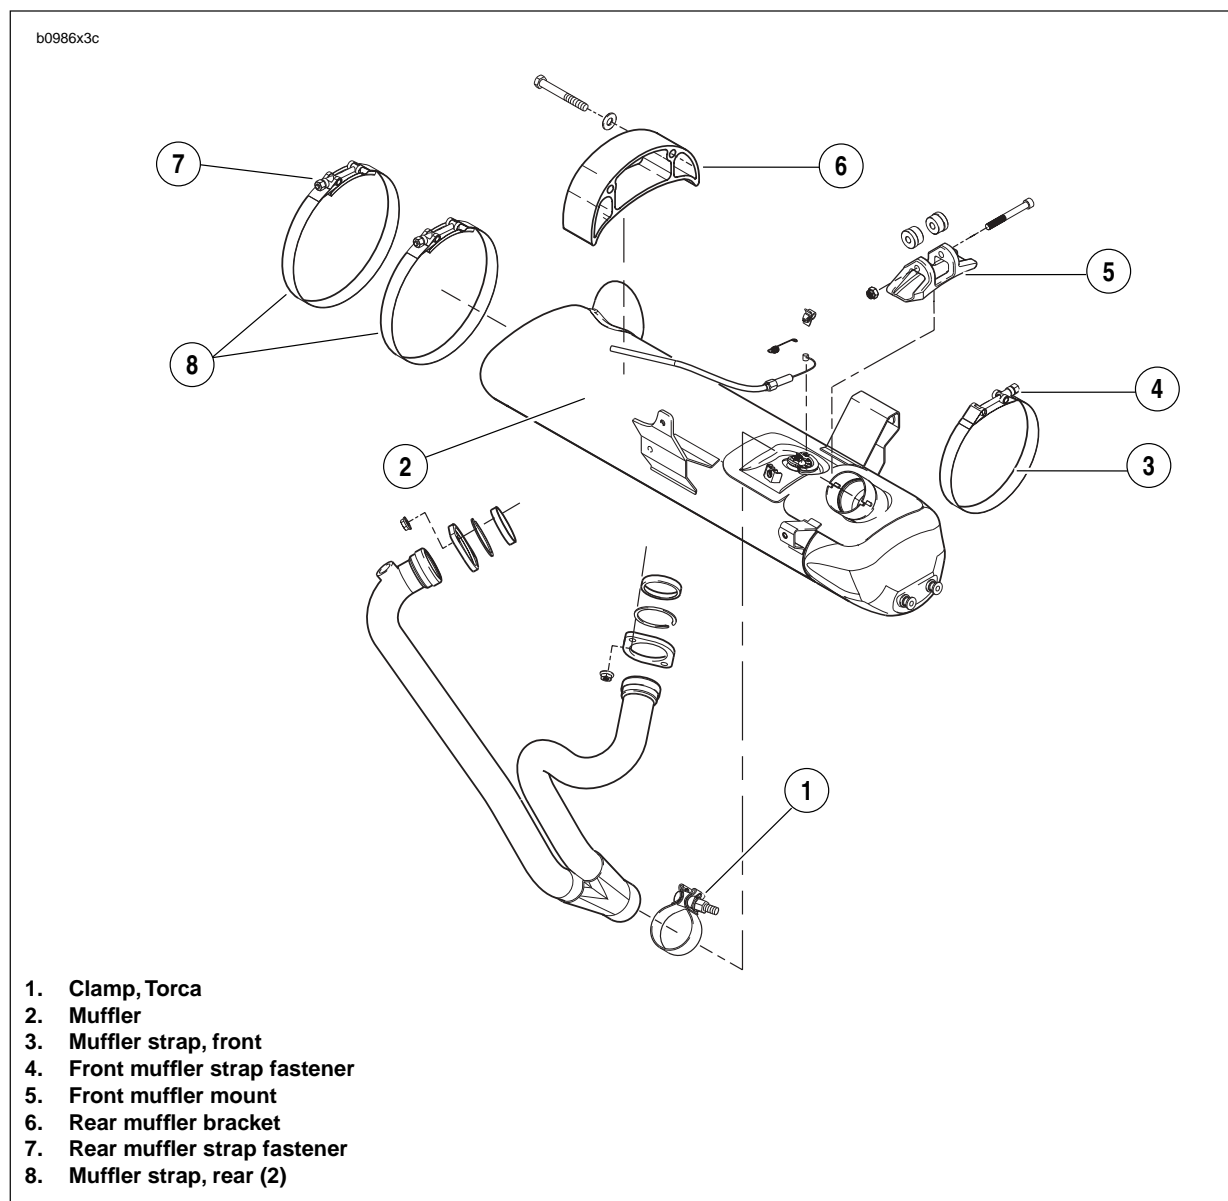

Figure 3-44. Muffler and Mounting System
19. See Figure 3-44. Apply LOCTITE 271 (red) to rear muffler bracket fasteners, install and tighten to 32-36 ft-lbs (43.4-48.8 Nm).